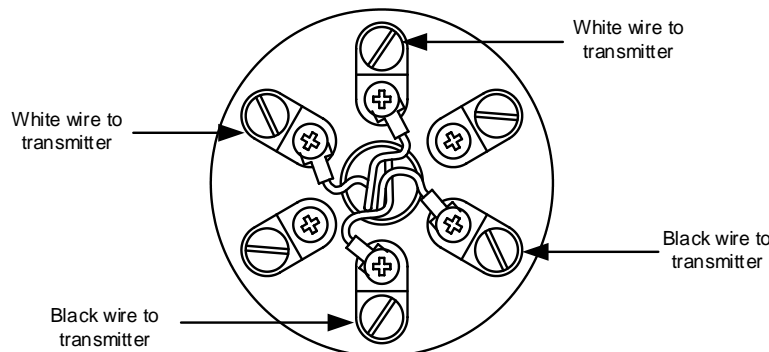

Figure 22: RTD wiring to transmitter
13. Connect the transmitter wiring to the RTD wiring block (Figure 22).